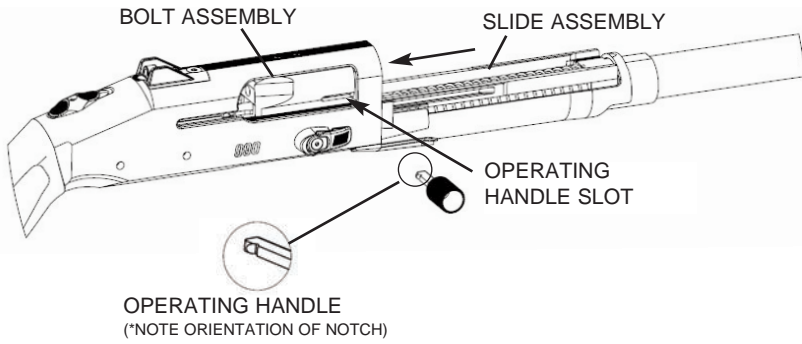

Figure 16
2. Install the bolt and slide assemblies into the front of the receiver through the opening for the barrel. The slide assembly may need to be "wiggled" side to side in order to engage the tracks in the receiver. The bolt assembly will stop when it is nearly flush with the front of the receiver. Press the bolt release, this will allow the action to seat in the receiver. Push the bolt assembly rearward into the receiver just far enough for the operating handle slot to become fully visible (Figure 16).